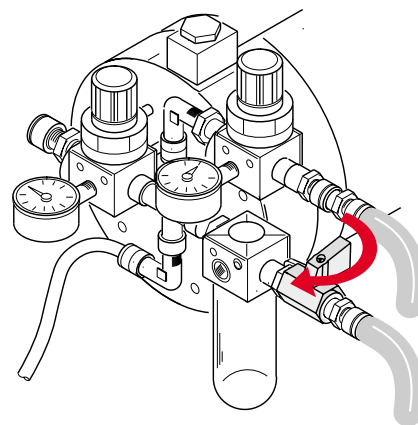

Fig.43
- 2) Discharge the pressure within the pump by closing the air inlet tap (fig. 43) and discharging all of the product left in the spray gun.